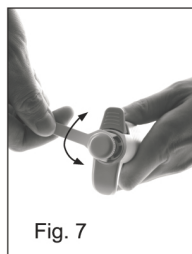

Fig. 7
- Place the calibration tool into the holes of the calibration adjustment lock (under the thumb button) (Fig.7).